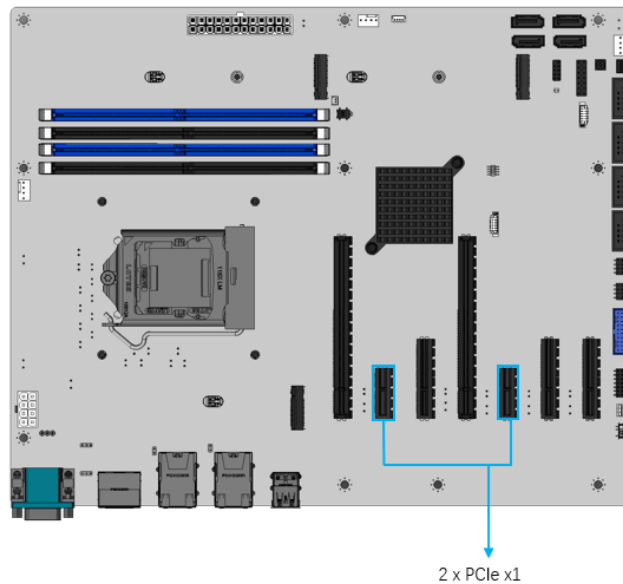

Figure 3-19: PCIe x1 Slot Locations
- CN Location:** See Figure 3-19